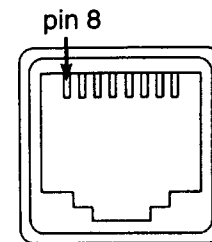

Figure 7-1. J2 Programming Connector, Front View
2. Using a DVM or oscilloscope, adjust the **Audio** control until 470 mV rms (1.33V p-p) is present at pin 8 of the ZR320 programming connector J2 on the front of the ZR320 (refer to Figure 7-1), or on either pin of JP5 inside the ZR320.